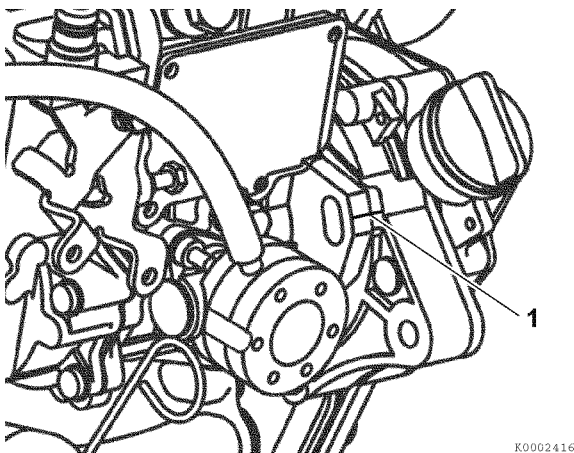

Figure 7-24
6. Align the reference marks (**Figure 7-24, (1)**) made during disassembly on both the fuel injection pump mounting flange and gear case. If installing a replacement fuel injection pump, align the manufacturer-applied mark on the pump mounting flange with the mark made on the timing gear cover.